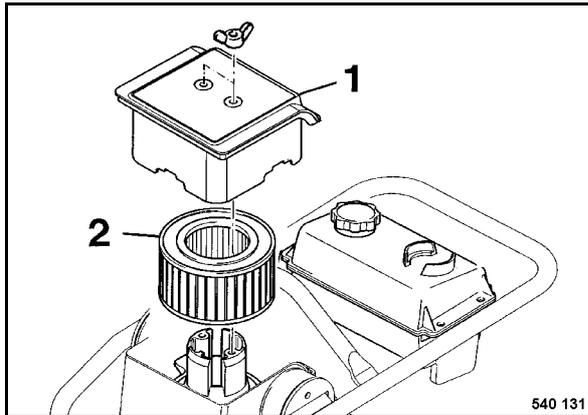

Fig. 60
- Remove the cover 1 (Fig. 60), take the filter cartridge (2) carefully out.